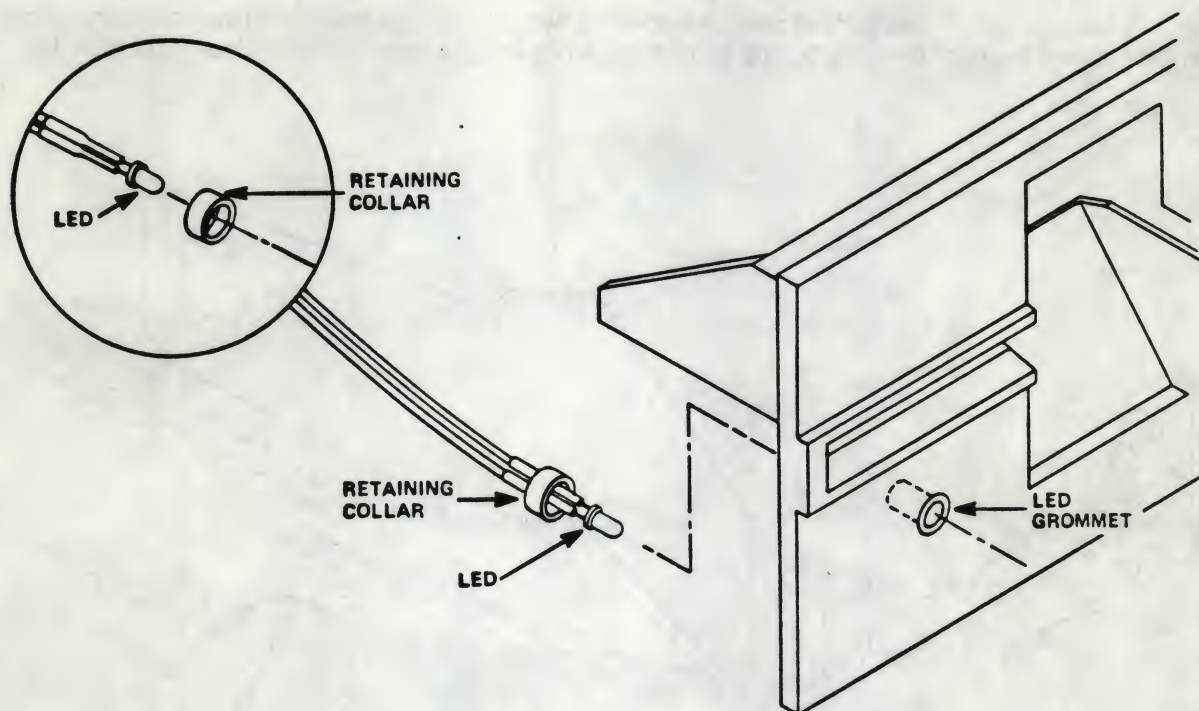

Figure 5-10
5.6.3 Remove the retaining collar that holds the Activity LED Assembly cables to the LED grommet by taking a pair of needle nose pliers and gently pulling the retaining collar away from the front panel (see Figure 5-10).